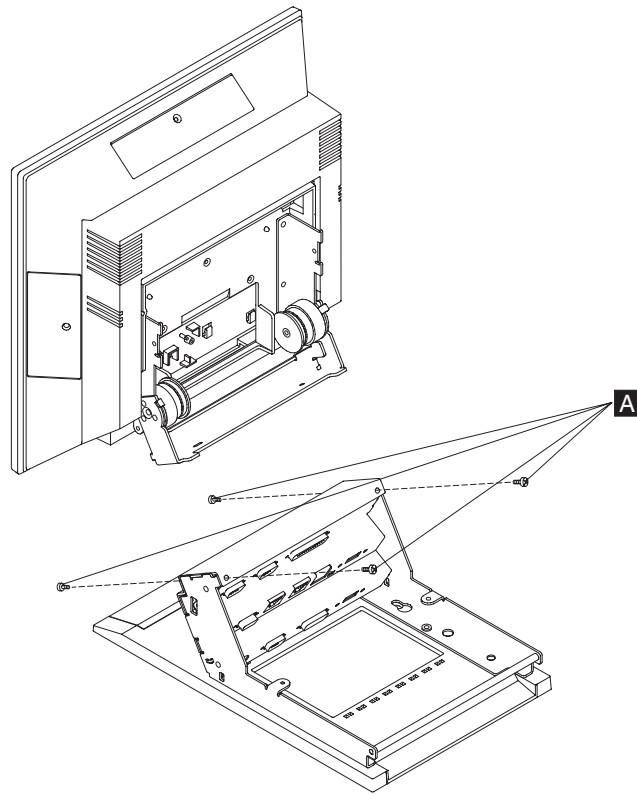

Figure 82. Detaching the display from the tailgate bracket
7. Detach the operator-display assembly (containing the operator display, touch screen and system board) from the tailgate bracket by removing four screws **A**, as shown in Figure 82. Carefully set the operator-display assembly aside.
4. Install the display assembly with four screws **A** as shown in Figure 82 on page 101.